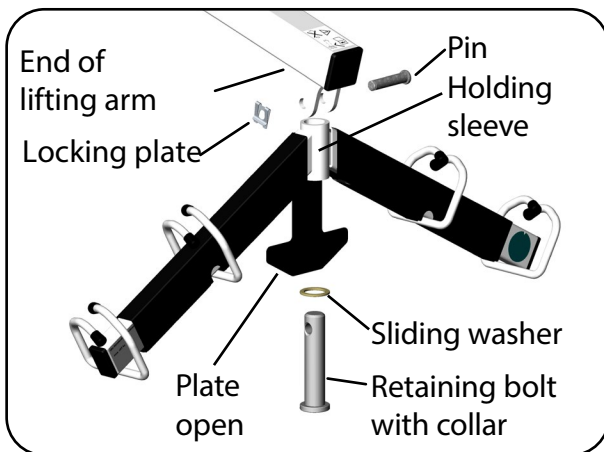

Fig. 6.2.06 - Montage Transportbügel
10. To mount the spreader bar, open the bar padding (plate). Remove the locking plate and then remove the pin from the hole on the end of the lifting arm. This separates the retaining bolt with collar from the lifting arm (Fig. 6.2.06).
12. Then insert the retaining bolt with collar together with the sliding washer from below through the holding sleeve of the spreader bar (Fig. 6.2.06). The sliding washer lies on the collar of the retaining bolt.